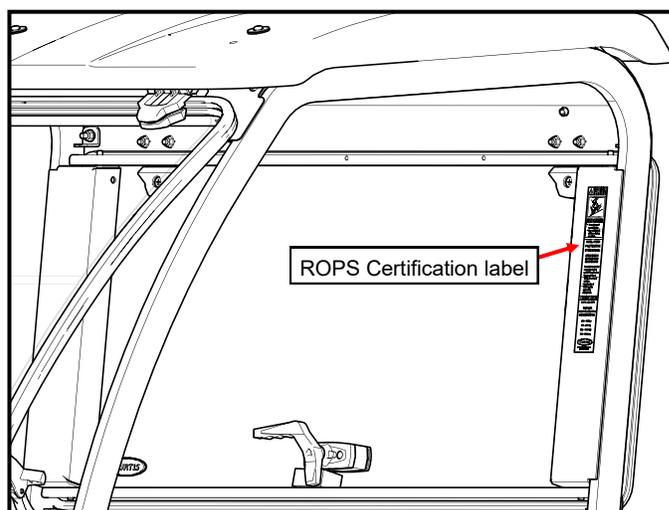

Figure 7.3: ROPS Certification Label
- 7.3 Apply ROPS Certification Label to the driver's side cab frame as shown (Figure 7.3).